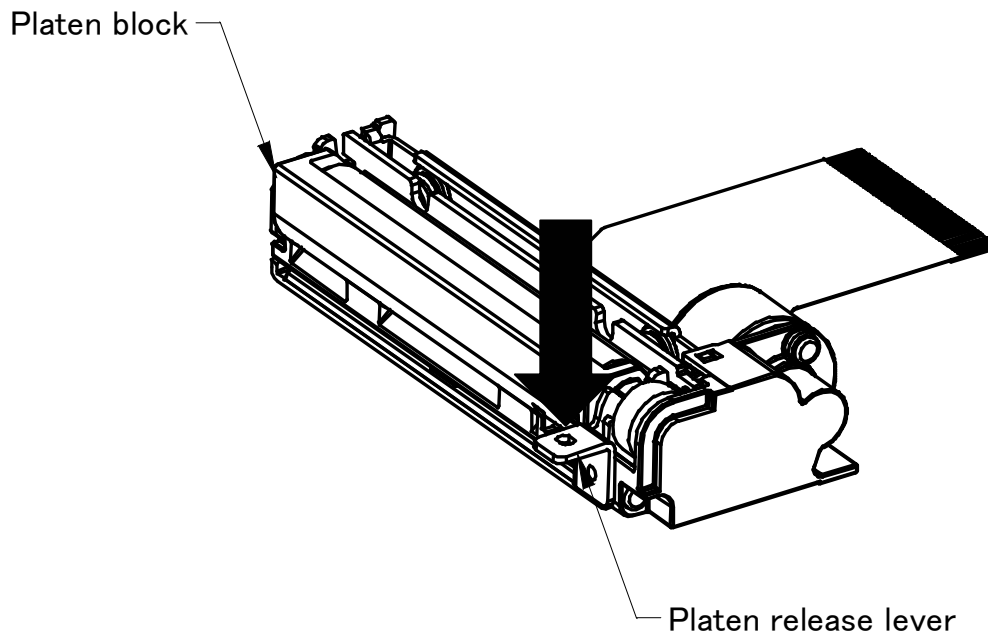

Figure 8-2 Releasing the Platen Block
- ###### ② Uninstalling the thermal paper
- ###### ③ Clearing a paper jam
- If a paper jam is not solved, Operate the platen release lever as shown in Figure 8-2 and remove the thermal paper.
- Push the platen release lever to the direction of the arrow in the Figure 8-2. Pull up the platen block after making sure that the platen block is released from the printer main body.